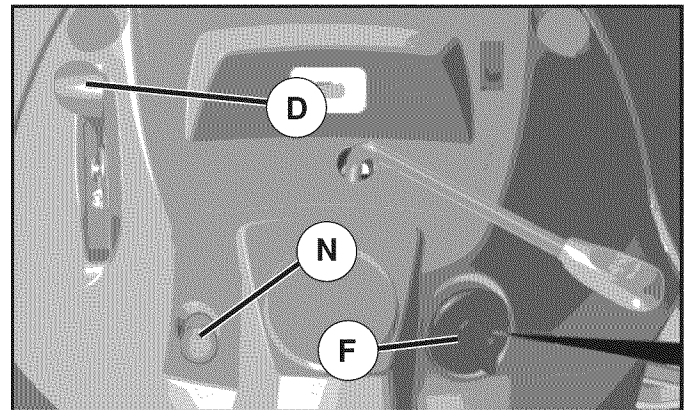

Fig. 6
- Turn ignition switch (F) to "STOP" position and remove key. Always remove key when leaving tractor to prevent unauthorized use.
### TO USE THROTTLE CONTROL (D) (See Fig. 6)
### TO USE CHOKE CONTROL (N) (See Fig. 6)